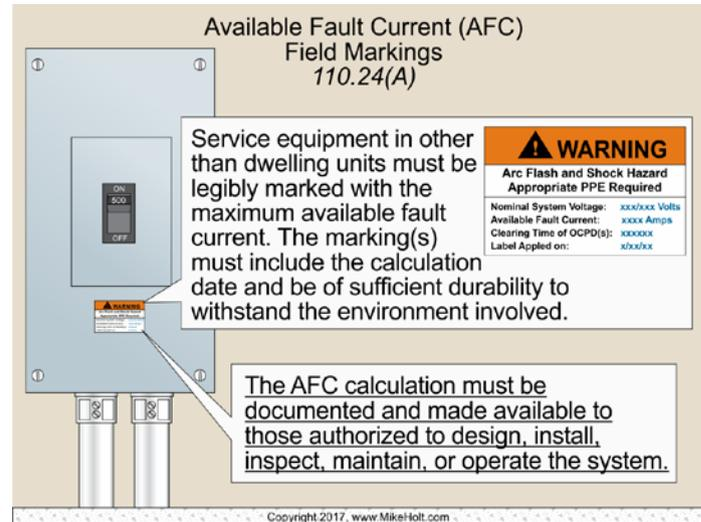

Figure 110-27
(A) Field Marking. Service equipment, in other than dwelling units, must be field marked with the maximum available fault current, the date the fault current calculation was performed, and be of sufficient durability to withstand the environment involved. [The available fault current calculation for the service equipment label must be documented and be available to those who are authorized to design, install, inspect, maintain, or operate the system.](#) Figure 110-27